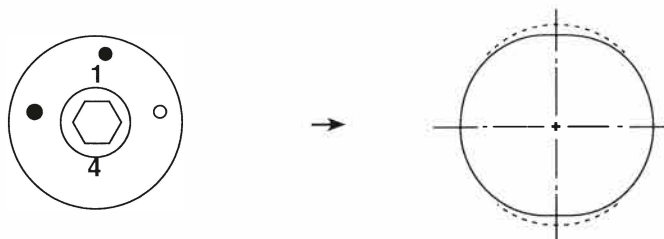

Fig. 4. ○ - vacant Hole ● - screwed Hole
1. Before turning, it is necessary to drill one or more mousing holes on the workpiece, at 90° to one of the existing ones, and then mount the socket to the workpiece with the holes configured as in Fig. 4, below.
3. Before turning the opposite side of the pair, rotate the ball drive in the socket by 180° , such that you relocate from side '1' to side '4', Fig. 4.
3. Locate the ball drive in the socket on side '1', Fig.4.